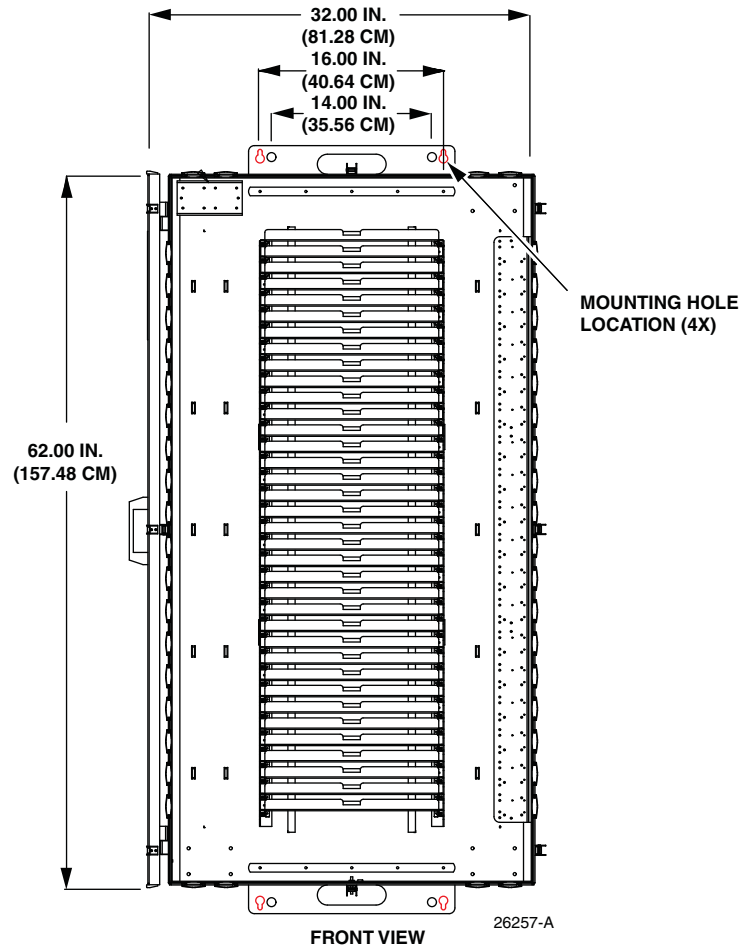

Figure 8. FEC-10K Mounting Dimensions and Mounting Hole Locations
1. Determine the FEC mounting location. Mark hole positions using dimensions shown in Figure 8.